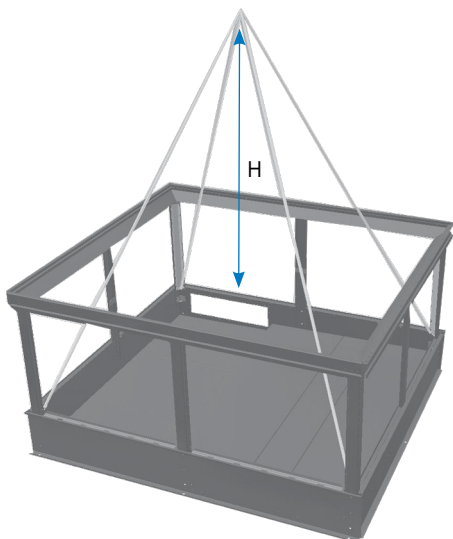

Figure 6a. Lower Section Lift
2. **Figures 6a, 6b, and 6c** on **page 5** show the proper rigging for units shipped in three sections.